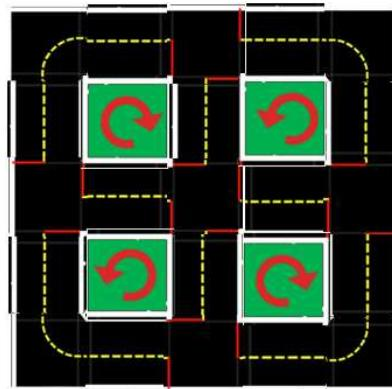

Figure 25.3. The Demo Map
Dream scenario intersection coordination: Duckiebots loop through the map as indicated in Figure 25.3. At the intersections the Duckiebots coordinate implicitly. Demo can run indefinitely without collision. Tunable: density of the traffic (fleet size) and the speed.
- The tiles to build the map in Figure 25.3